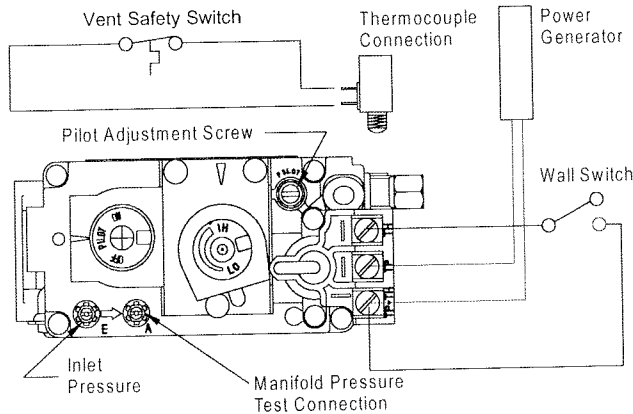

Figure 10. Sit Nova 820 gas valve.
- Have the fireplace installation **inspected yearly**, including a visual check of the vent system, the burner and the pilot flame. For your convenience, a 1/8" manifold pressure tap is supplied on the gas valve for a test gauge connection. See Figure 10.
1. Locate Pilot Adjustment Screw. (See figure 10.)
Pilot won't ignite	Disconnect remote wires and try to light pilot. If pilot now works, remote connections are faulty. Check wiring diagram figure 10.
Main burner will not light	<ol style="list-style-type: none"> <li>1. Check wiring (see figure 10).</li> <li>2. Check wall switch for proper connection.</li> <li>3. Check pilot burner. If extinguished:                             <ol style="list-style-type: none"> <li>a. Allow fireplace to cool, then try to relight.</li> <li>b. If condition persists, call a qualified service person.</li> </ol> </li> </ol>